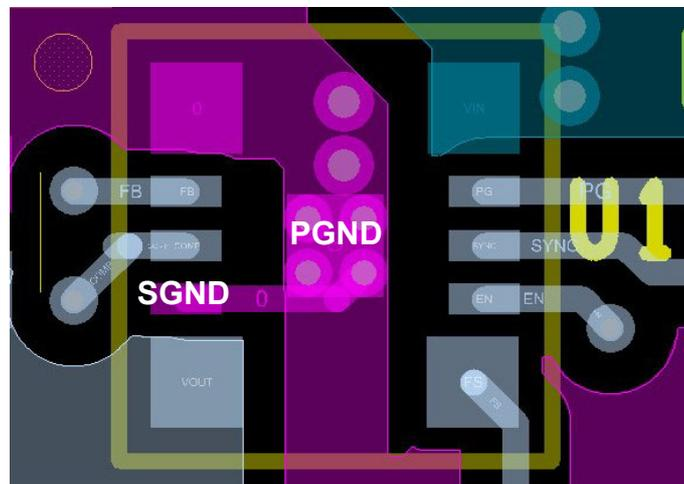

Figure 39. Layout Example - SGND is Connected to PGND at Single Point
- Use a separate SGND plane for components that are connected to SGND. Connect SGND and PGND at a single point on the top layer as shown in Figure 39.